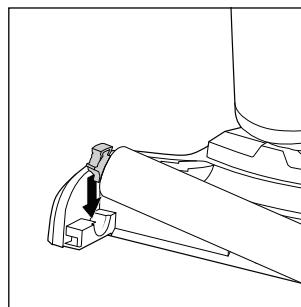

Fig. 40
- ◆ Then push the bracket on the left end of the rotary brush **6** into the opening on the left side of the foot section **3** until the rotary brush **6** audibly clicks into place (see fig. 40).